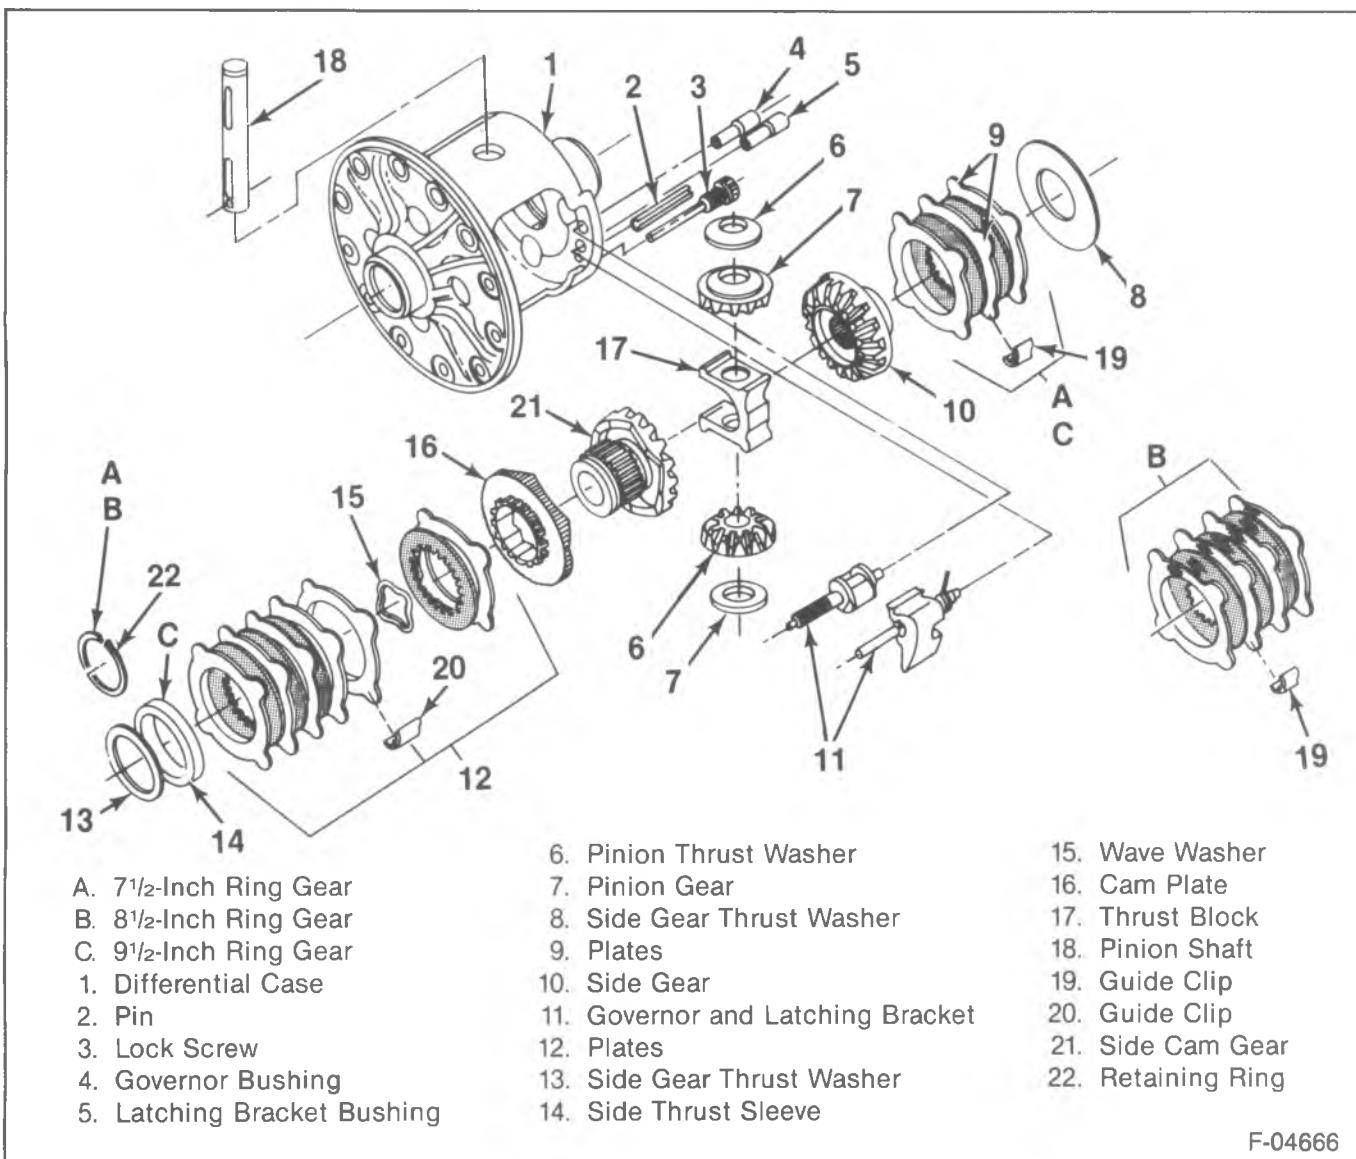

Figure 190—Differential Components
7½ - 8½ AND 9½-INCH RING GEAR**DISASSEMBLY OF THE DIFFERENTIAL****➡ Remove or Disconnect (Figure 190)**
CAM-UNIT DISASSEMBLY - 7½ AND 8½-INCH**➡ Remove or Disconnect (Figures 190 and 192)**
1. Cam plate (16) to the Cam side gear (21).
- Alternate the plates as shown in figure 190.
4. Guide clips (20) to the plates.
1. Cam plate (16) to the cam side gear (21).
5. Thrust sleeve (14).